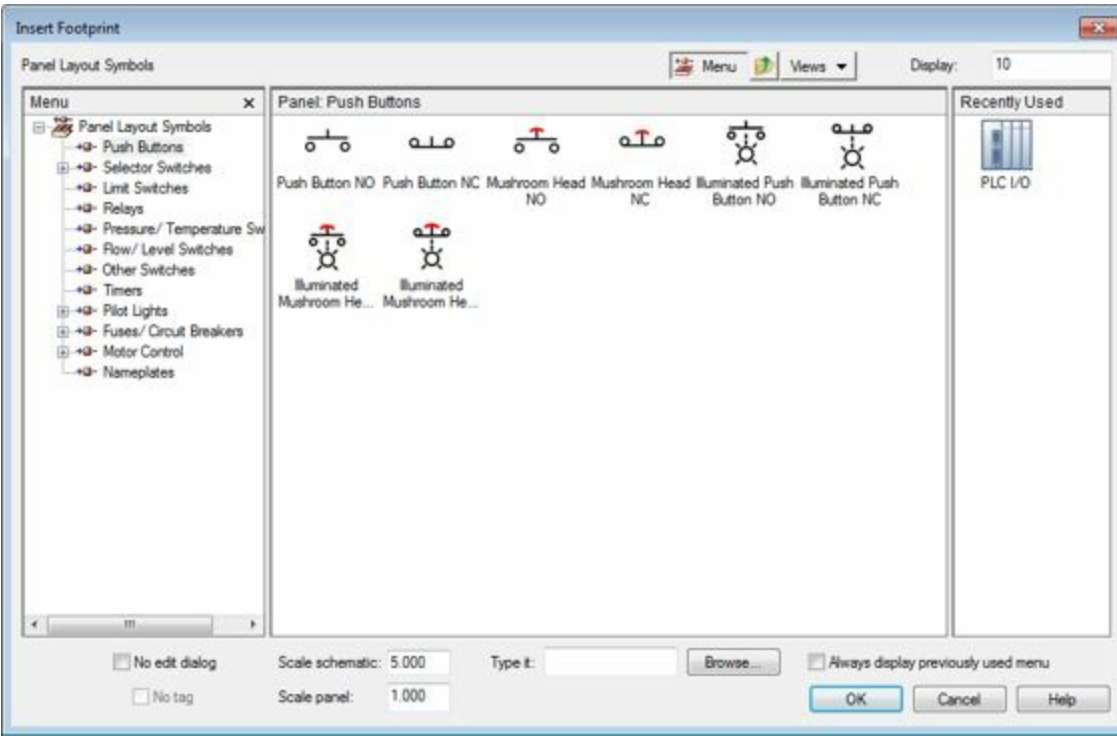

Figure-6. Insert Footprint dialog box with Push Buttons
- Click on the desired category (Push Buttons in our case). The symbols related to the selected category will be displayed; refer to Figure-6.